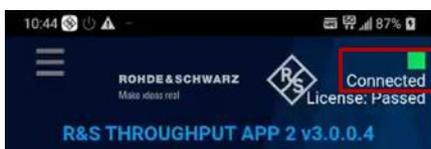

Figure 72 Connected status shown in RS throughput app
- As long as MCS tuning is terminated, the connection status in Throughput App on DUT is changed to 'Connected' status (see Figure 72). The IP tuning is then started in CMSquares. In each iteration, the target throughput is adapting. The tuning is terminated if measured throughput converges the target or the number of iterations reaches the configured number of 'maximum iteration count'.